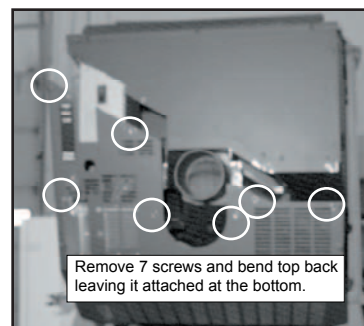

Figure 31.2
- c. Remove 7 screws from the back screen and pivot the top of the screen toward you leaving the bottom attached to stove. **Figure 31.2.**